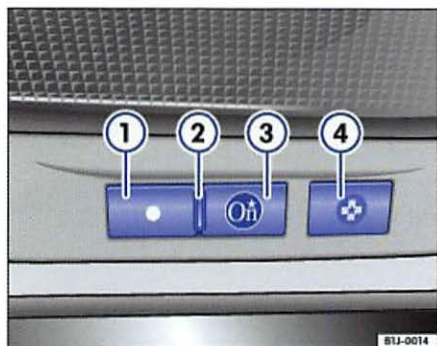

Fig. 2 Blue OnStar button
- Press the blue **OnStar** button ⇒ fig. 2 ③ located on the headliner panel. A prerecorded message will be played, which explains OnStar services and activation.